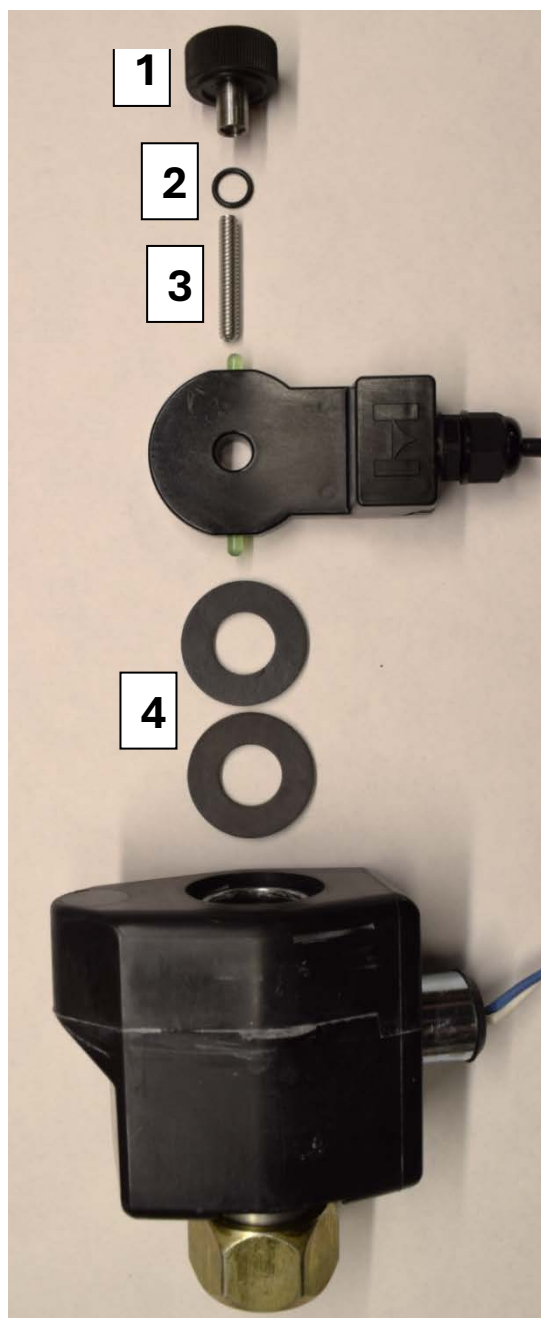

Figure 14
- Parker Coils - See Alternate Coils Figure 14 & 15